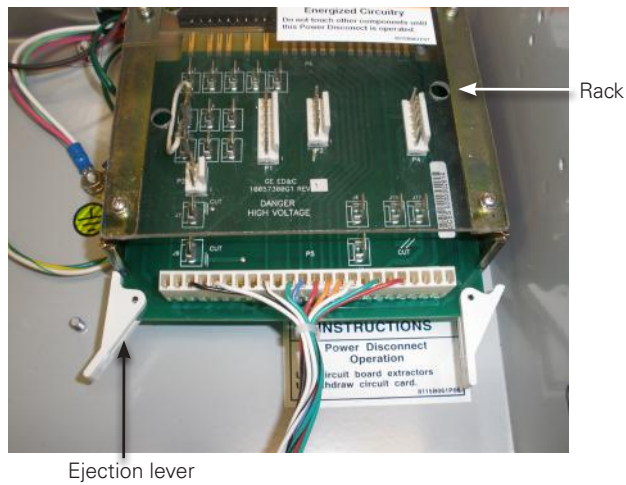
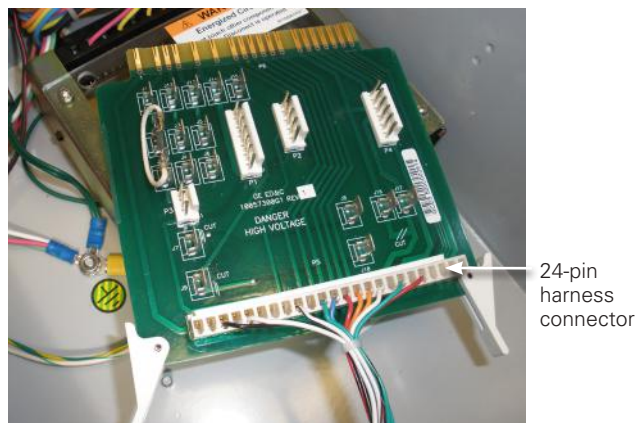

Figure 28. Releasing power disconnect-circuit board module.
Figure 29. Detached power disconnect-circuit board module and harness assembly.
- b. Slide out the circuit board module as shown in Figure 28 and Figure 29.
- c. Detach the 24-pin connector (see Figure 29); retain the circuit board.